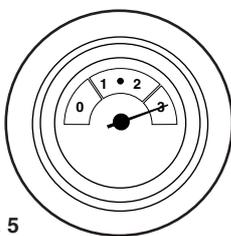

Fig. 5
3. A pressure of 3 or greater indicates a fault. The safety pressure relief valve will operate at a pressure of 3 (Fig. 5). It is important that your Service Engineer is contacted as soon as possible.